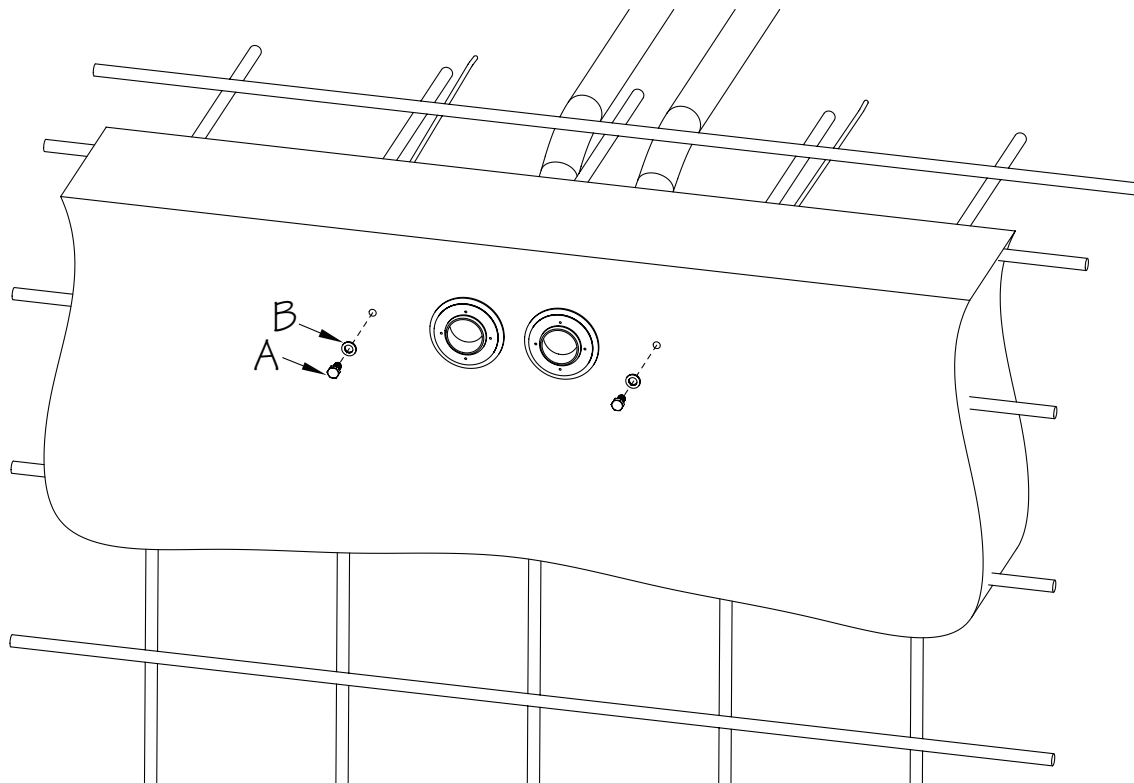

Fig. 7
Remove the Sacrificial Bolts (A) and Washers (B) once the concrete cures (Fig. 7).